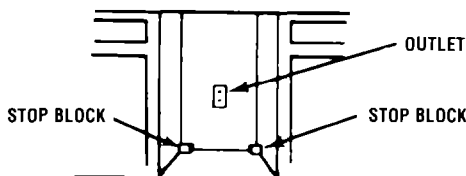

FIGURE 10
4. To prevent the power supply cord from being pinched, or the power supply plug from being crushed, install a stop block at the lower rear corners of the recessed opening. The blocks should be at least 3/4" (1.9cm) deep by 2" (5.1cm) wide, by 2" (5.1cm) high. See Figure 10 for details.